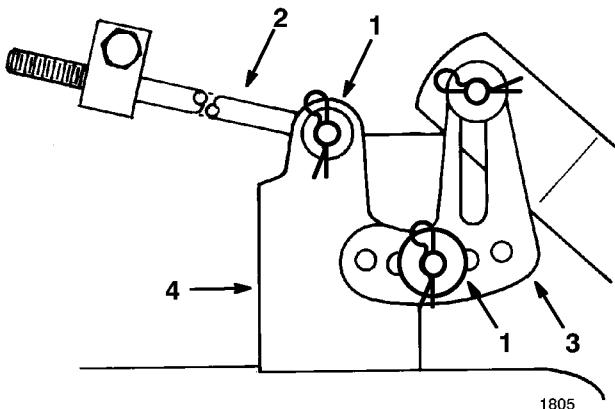

Figure 42
- Remove the hair pin cotter and washer from the end of the long rod (Fig. 42). Now slide the rod out of the mower mount. Repeat this step on the opposite side of the mower.
- Remove the hairpin cotter and washer at the mower leveling bracket (Fig. 42). Slide the bracket off the mounting pin. Re-install the washer and hairpin cotter for storage.